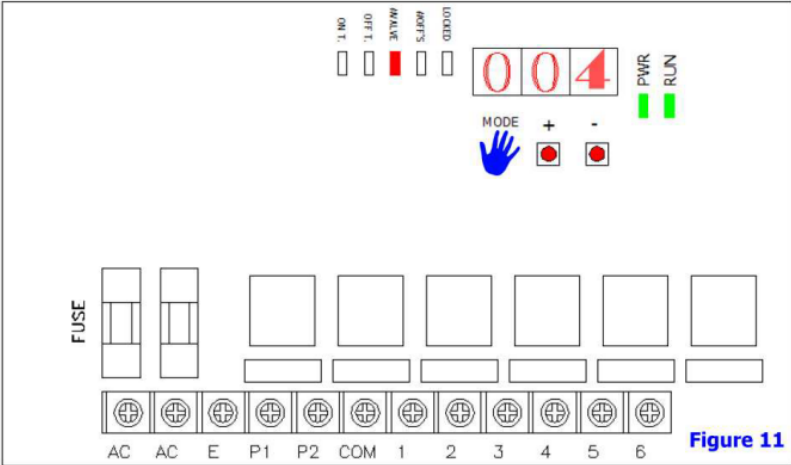

Figure 11
- Press MODE (figure 11) . The "#OFF'S" will flash up that represents it is in the circulation of the air pulsing setting mode (pink triangle) (figure 12).